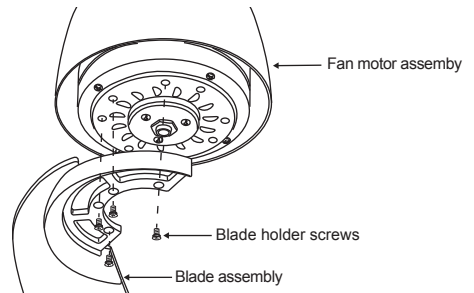

Figure 16
Step 4. Attach the blade assembly to the fan motor assembly by tightening the four blade holder screws previously the package hardware. (Figure 16)